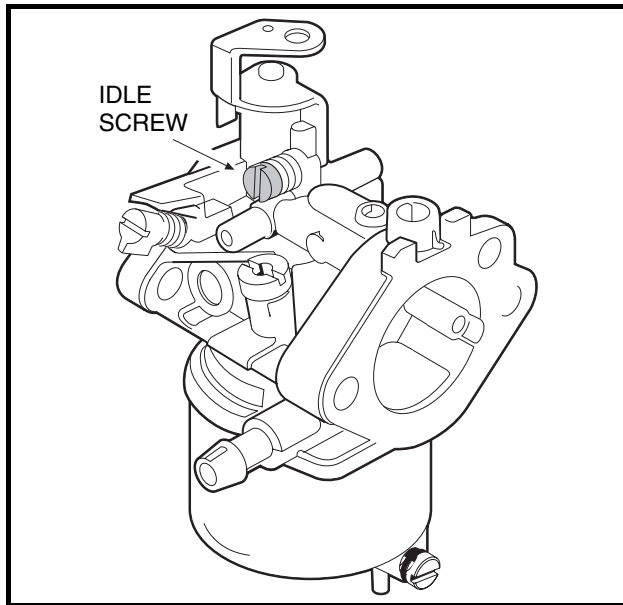

Figure 14-7 Idle Screw
1. Loosen the carburetor idle screw so that it is not touching the throttle lever (**Figure 14-7, Page 14-11**).